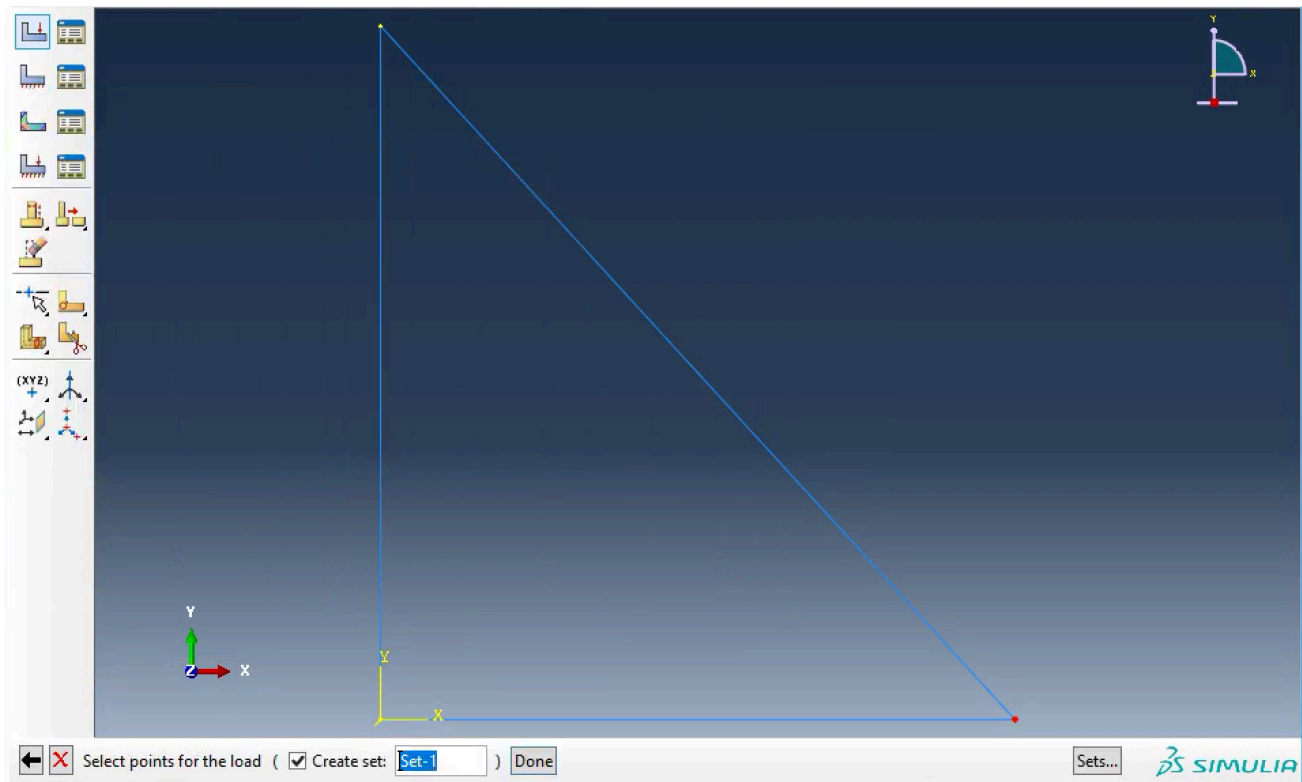

Figure 19 Picking the point for applying the concentrated force
- Then, Abaqus asks you to select points to apply the concentrated force. Click on the point that the concentrated force should be applied on. The selected point will be marked in red (Figure 19). Click on **OK**.